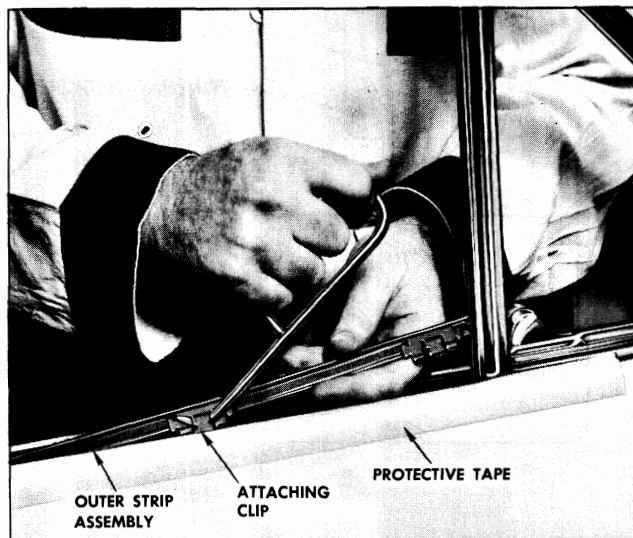

Fig. 12-3 Outer Panel Strip Removal
6. With a flat-bladed tool, gently pry inner or outer strip up at attaching clip locations (Fig. 12-3).